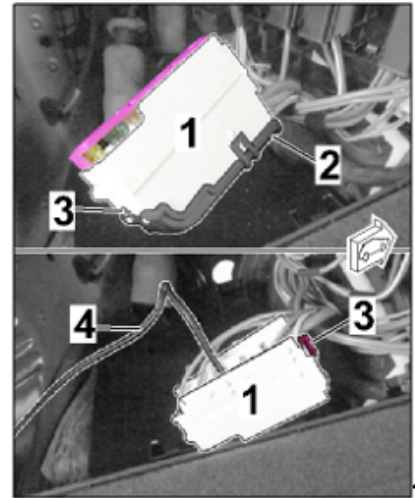

Figure 8
2.2.3 Install tie-wraps for wire harness (2 x) on threaded bolts on the outside of the vehicle (⇒ *Figure 8*).